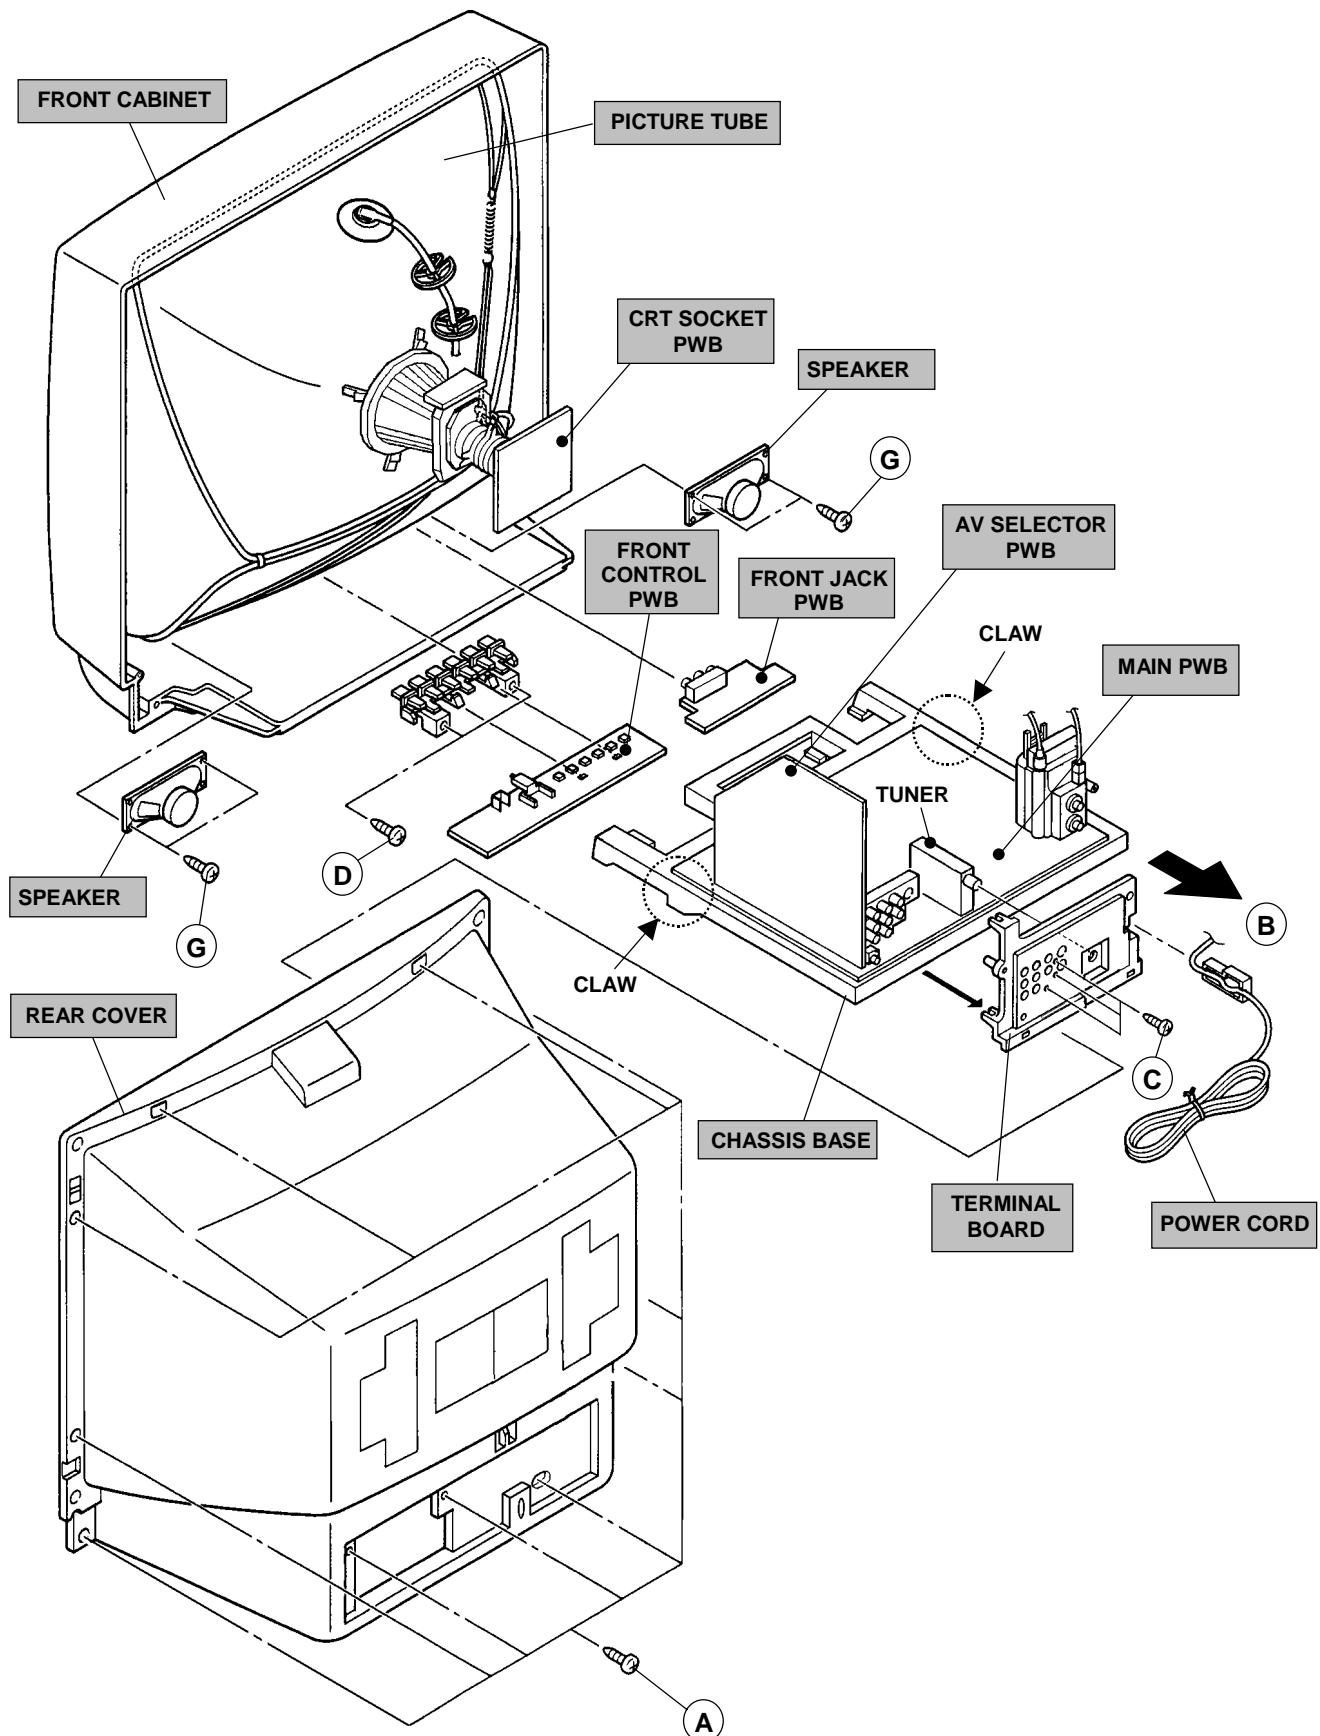

Fig.2
1. Remove the 11 screws marked **(A)** as shown in Fig.2.
2. Draw the chassis backward along the rail in the arrow direction marked **(B)** as shown in the Fig.2.
1. Remove the 3 screws marked **(C)** as shown in Fig.2.
1. Remove the 2 screws marked **(D)** as shown in Fig.2.